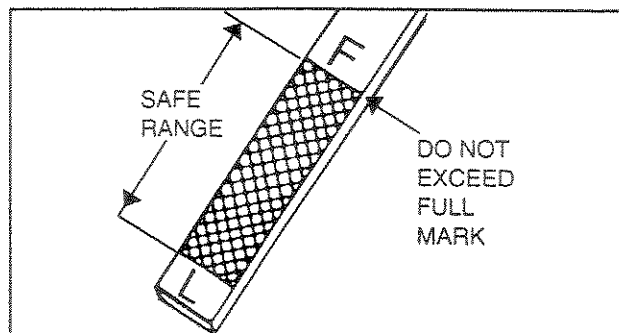

Figure 1. Oil Level Dipstick.
4. Pull the dipstick out and check the oil level. The oil level should be up to, but not over, the "Full" mark on the dipstick. See Figure 1.